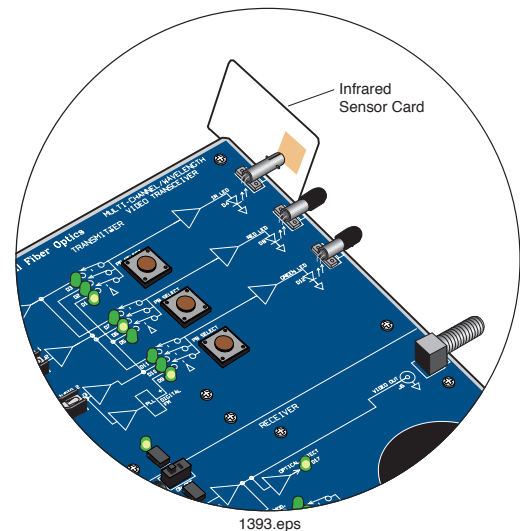

Figure 6. Correct location of the infrared sensing card to view IR Light.
3. Place the pale orange phosphor square on the Infrared Sensor Card right up against the IR LED as shown in Figure 6. You should see a glowing area on the card corresponding to the infrared energy coming out of the IR LED. You may need to dim the room lights